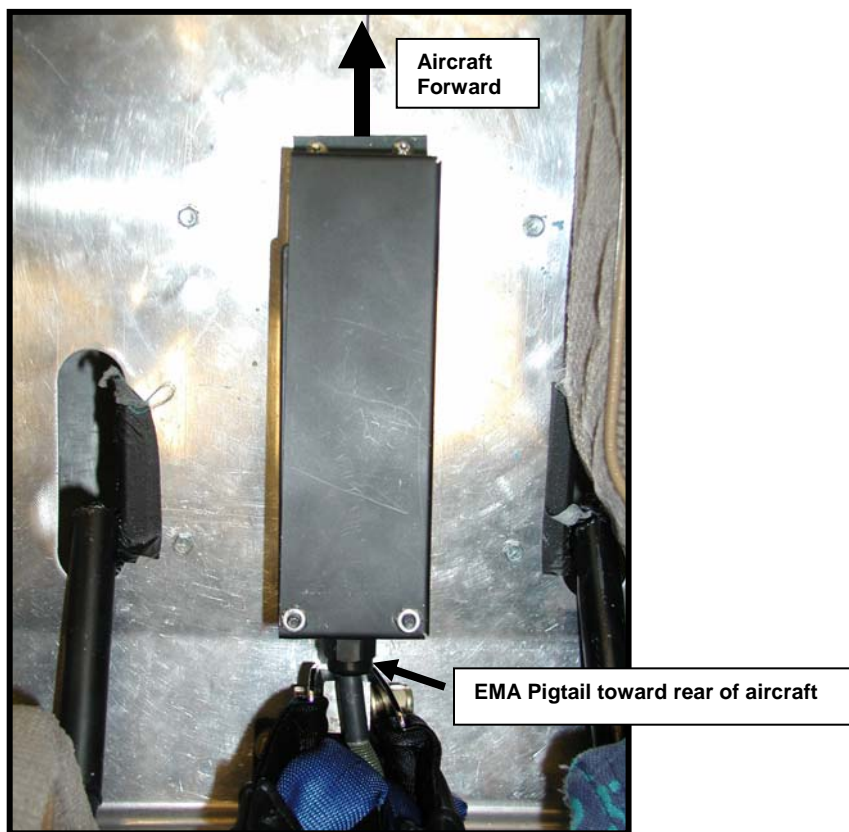

Figure 6 – EMA Aircraft Forward Installation
7. Insert **EMA** (50) into mounting hardware and secure. EMA pigtail end should be oriented on aircraft structure pointing toward the rear of the aircraft (see Figure 6). Connect EMA to **Cable Interface Assy's** EMA connector.